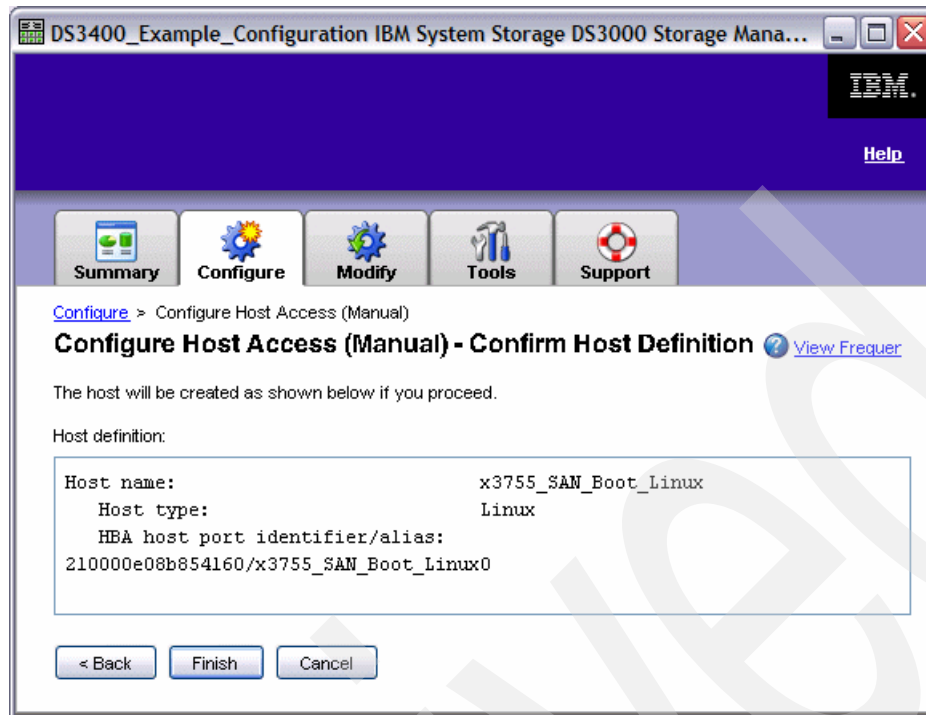

Figure 26-11 Confirm Host Definition
- The confirmation window displays, as shown in Figure 26-11 on page 649. Review the host definition and click **Finish**.